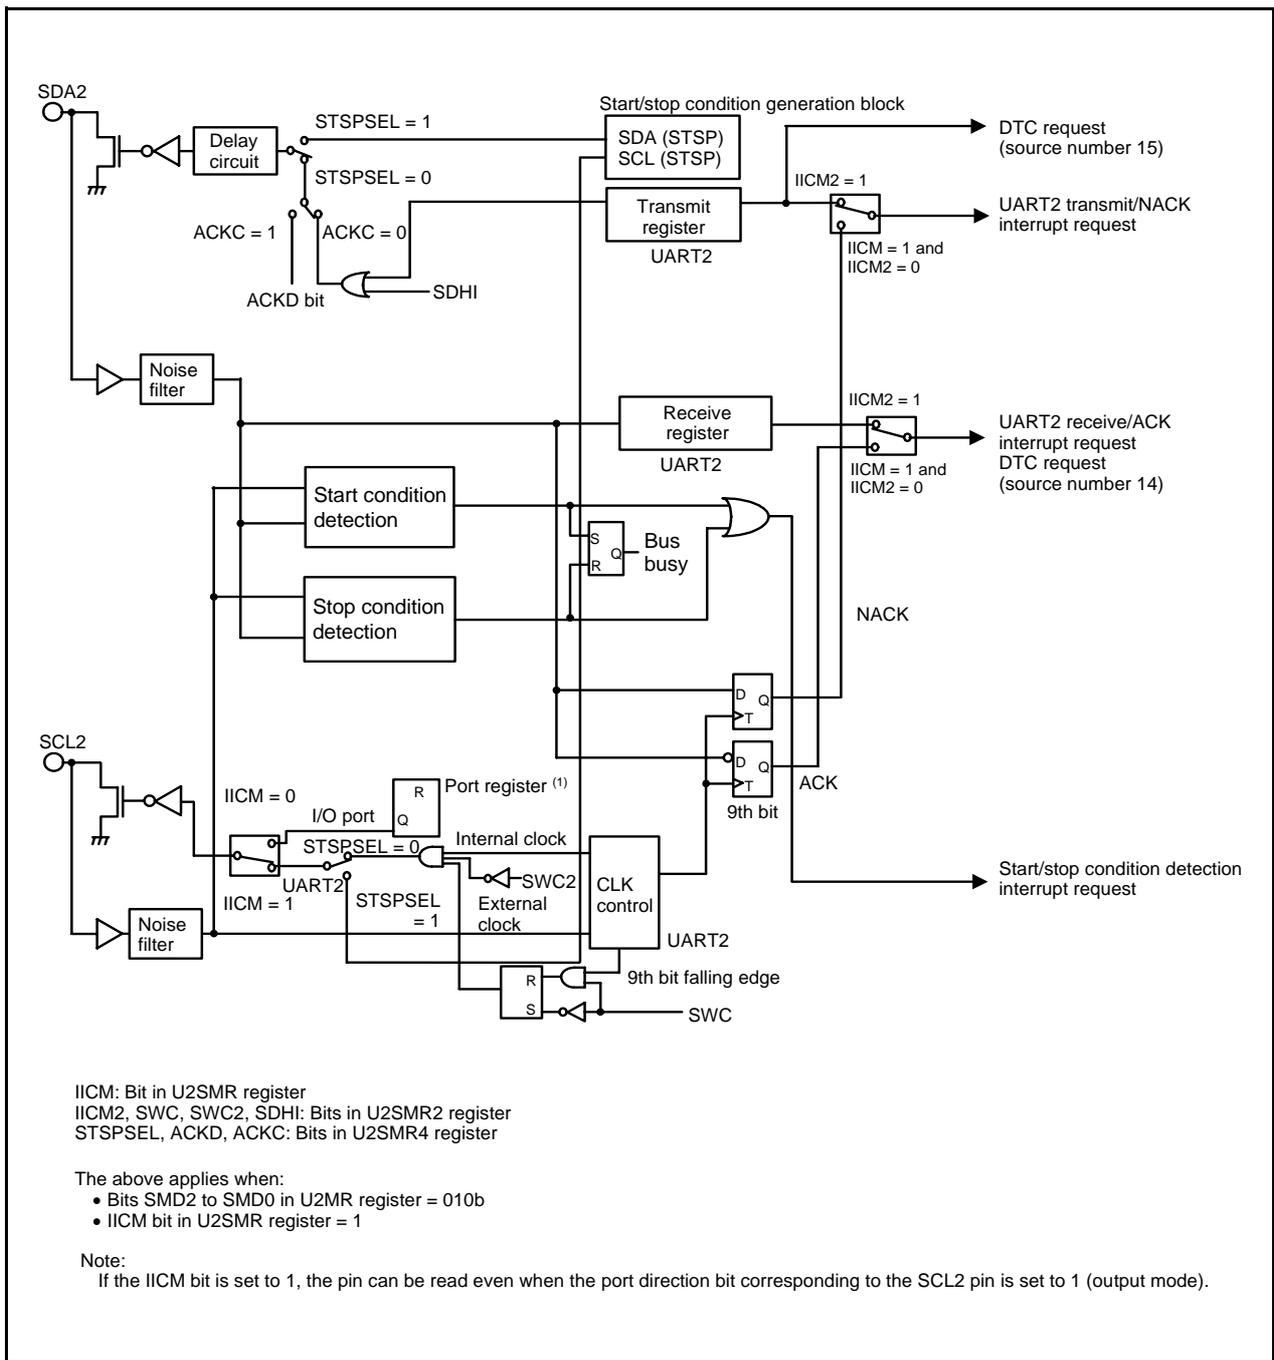
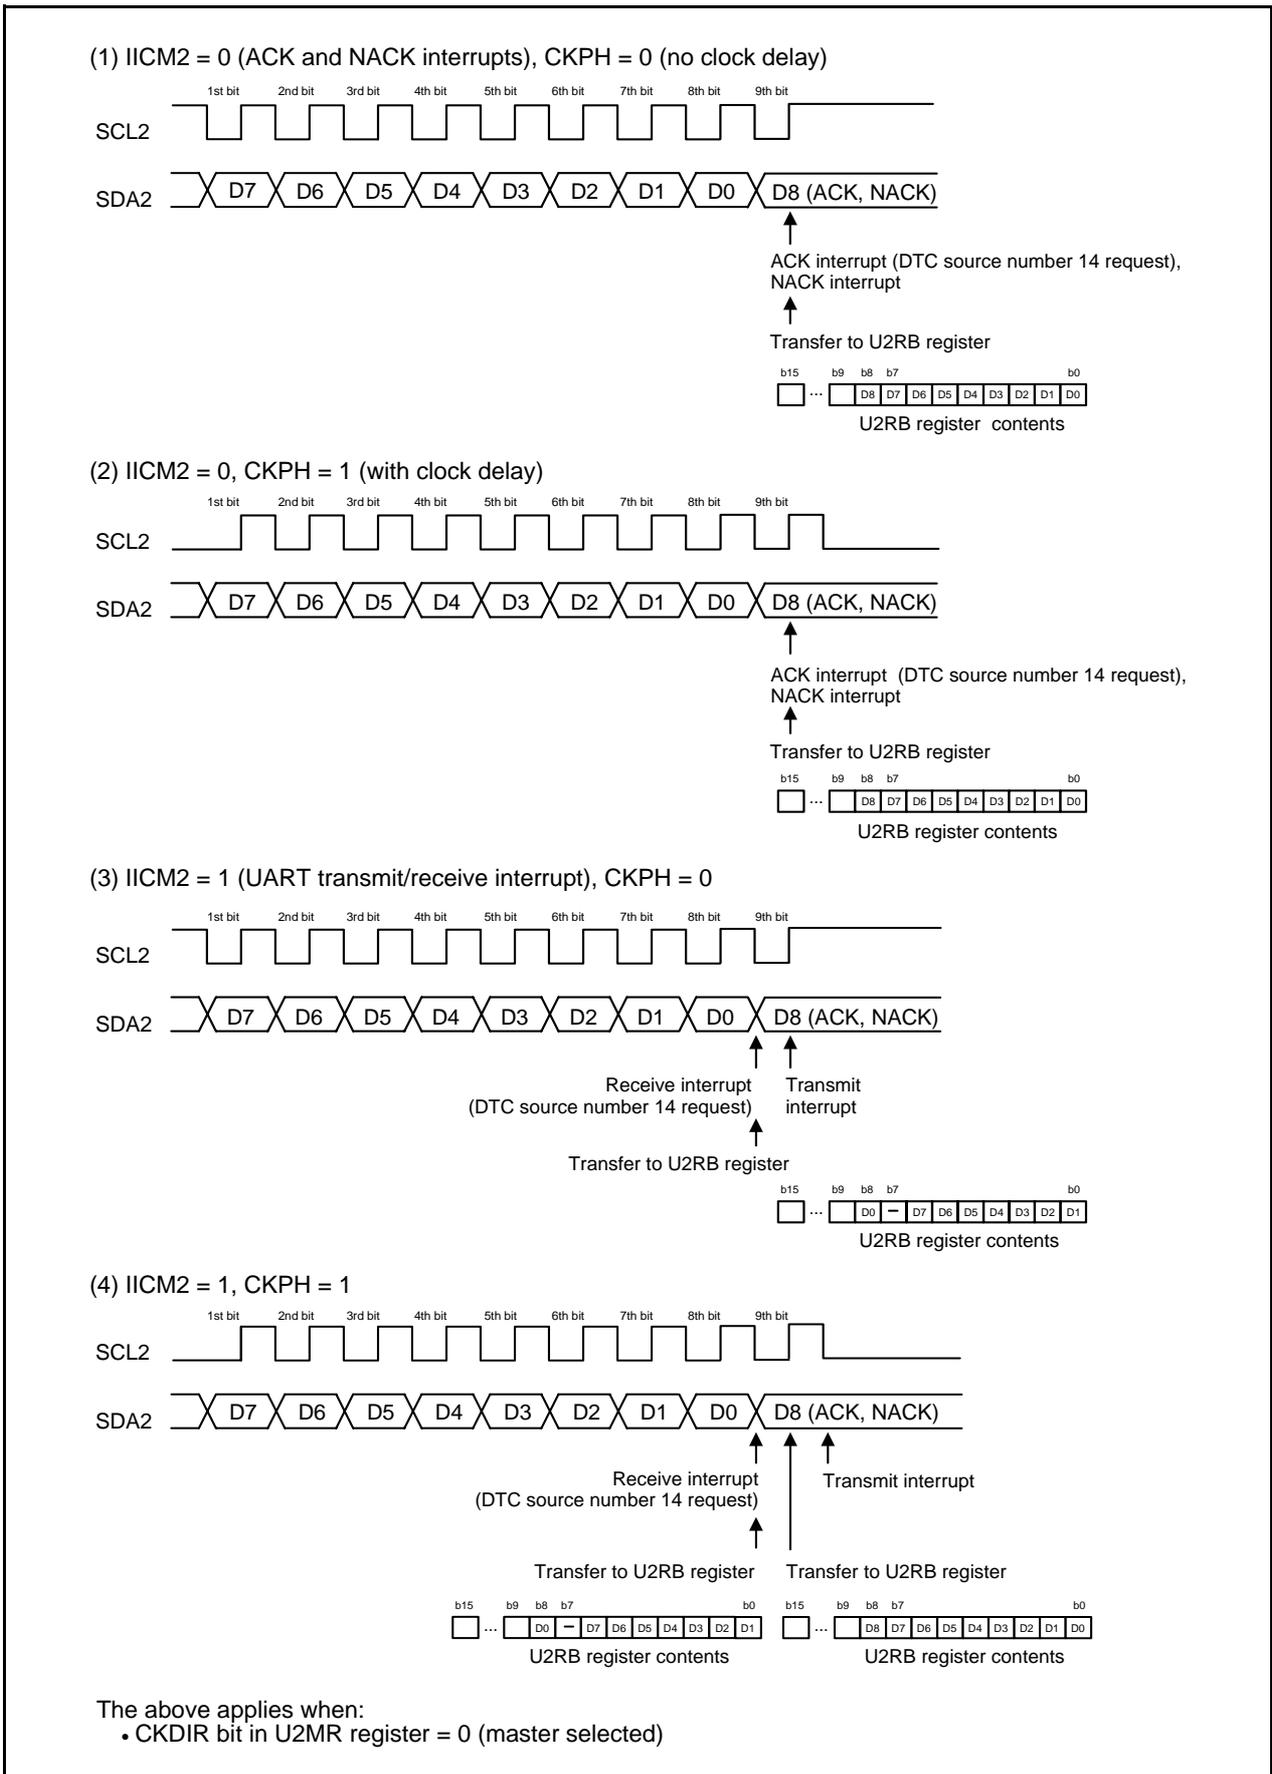

Figure 22.13 I²C Mode Block Diagram
Figure 22.14 Transfer to U2RB Register and Interrupt Timing
I²C mode is provided for use as a simplified I²C interface compatible mode. Table 22.9 lists the I²C Mode Specifications. Tables 22.10 and 22.11 list the registers used in I²C mode and the settings. Table 22.12 lists the I²C Mode Functions, Figure 22.13 shows an I²C Mode Block Diagram, and Figure 22.14 shows the Transfer to U2RB Register and Interrupt Timing.
- Refer to **Figure 22.14 Transfer to U2RB Register and Interrupt Timing**.
The transfer clock is used to transmit and receive data as is shown in **Figure 22.14 Transfer to U2RB Register and Interrupt Timing**.